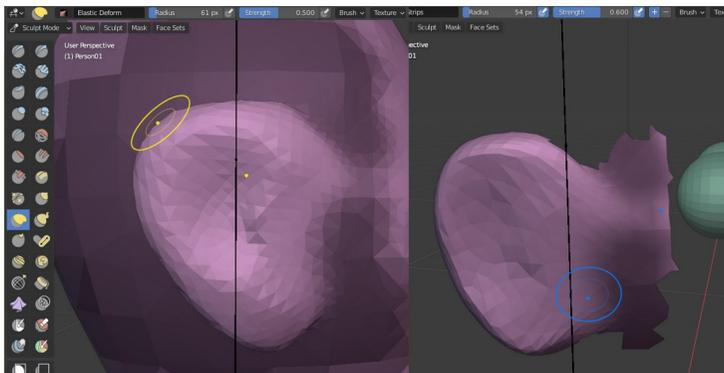

Figure 5-4 Mask around the ears or hide vertices
25. To prevent the head around the ear being distorted, draw using the Mask brush then, with the Grab brush, stretch the edge of the ear out into, well, an ear shape, shown on the left of Figure 5-4.
Masking is an important part of sculpting and painting on 3D objects, with several methods available. One approach, also shown in Figure 5-4 is to switch to Edit mode, select the vertices you want to work on, then **Mesh ▶ Show/Hide ▶ Hide Unselected**. The hidden vertices will also be hidden when you switch back to Sculpt mode.